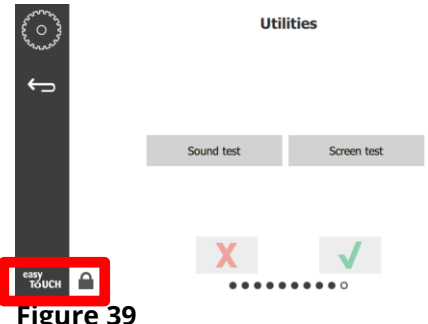

Figure 39
- 49. Press and hold the easyTouch logo in the lower right corner for 10 seconds. The controller displays Reset Configuration. Press the GREEN checkmark button. (see Figure 39).